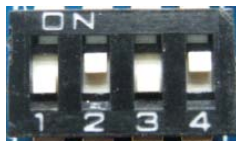

Figure 4. Address Configuration Example (10)
- Example: If the required node address is **10** (binary **1010**), set **SW2 & SW4 to on** and **SW1 & SW3 to off** (see Figure 4).